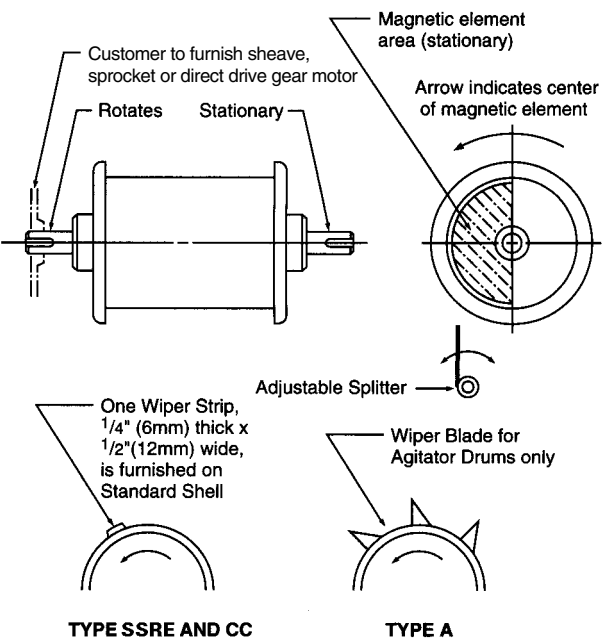

FIGURE 1
1. Drum should be installed on a support frame with drive extension suitable for sprocket or sheave and a drive extension suitable for a direct drive gear motor using a pillow block bearing on the shaft extension which is keyed and a shaft clamp block on the opposite shaft extension. Before clamping the shaft in place, the magnetic element should be correctly positioned as illustrated in Figure 1.
2. A tramp iron divider is required and should be positioned below the drum as illustrated in Figure 1. The splitter should have a knife edge and be fabricated of a nonmagnetic material such as aluminum or stainless steel. It should be adjustable in both position and length. Correct adjustment will be determined when the unit is operating.